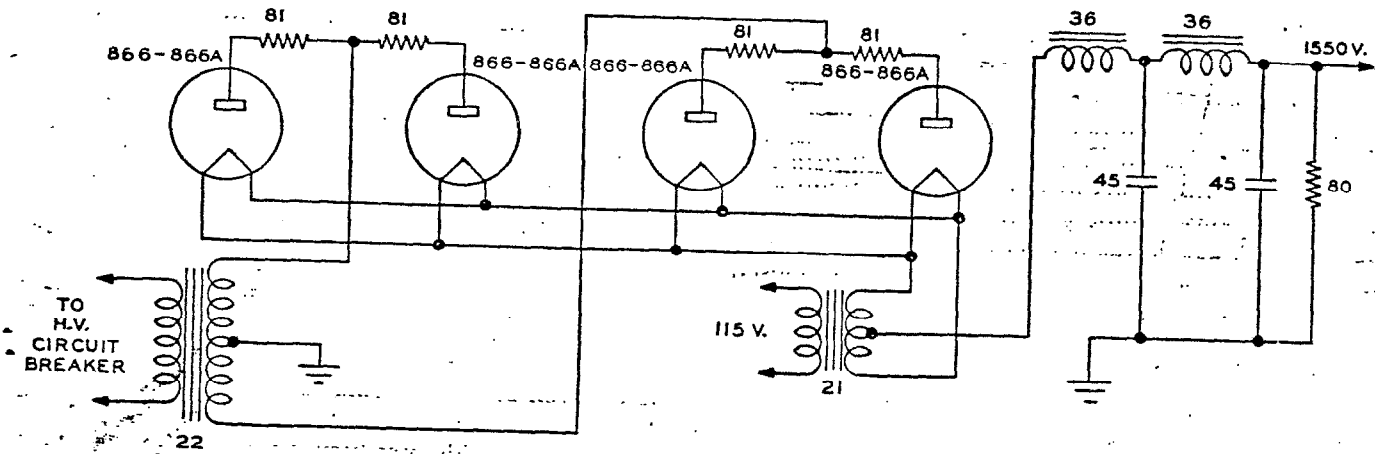

Figure 2-8. High Voltage Supply
d. **HIGH VOLTAGE SUPPLY.** (Refer to figure 2-8.)—The high voltage supply employs four half wave rectifiers in a full wave rectifier system. Plate voltage is applied to the high voltage rectifiers after *401w*